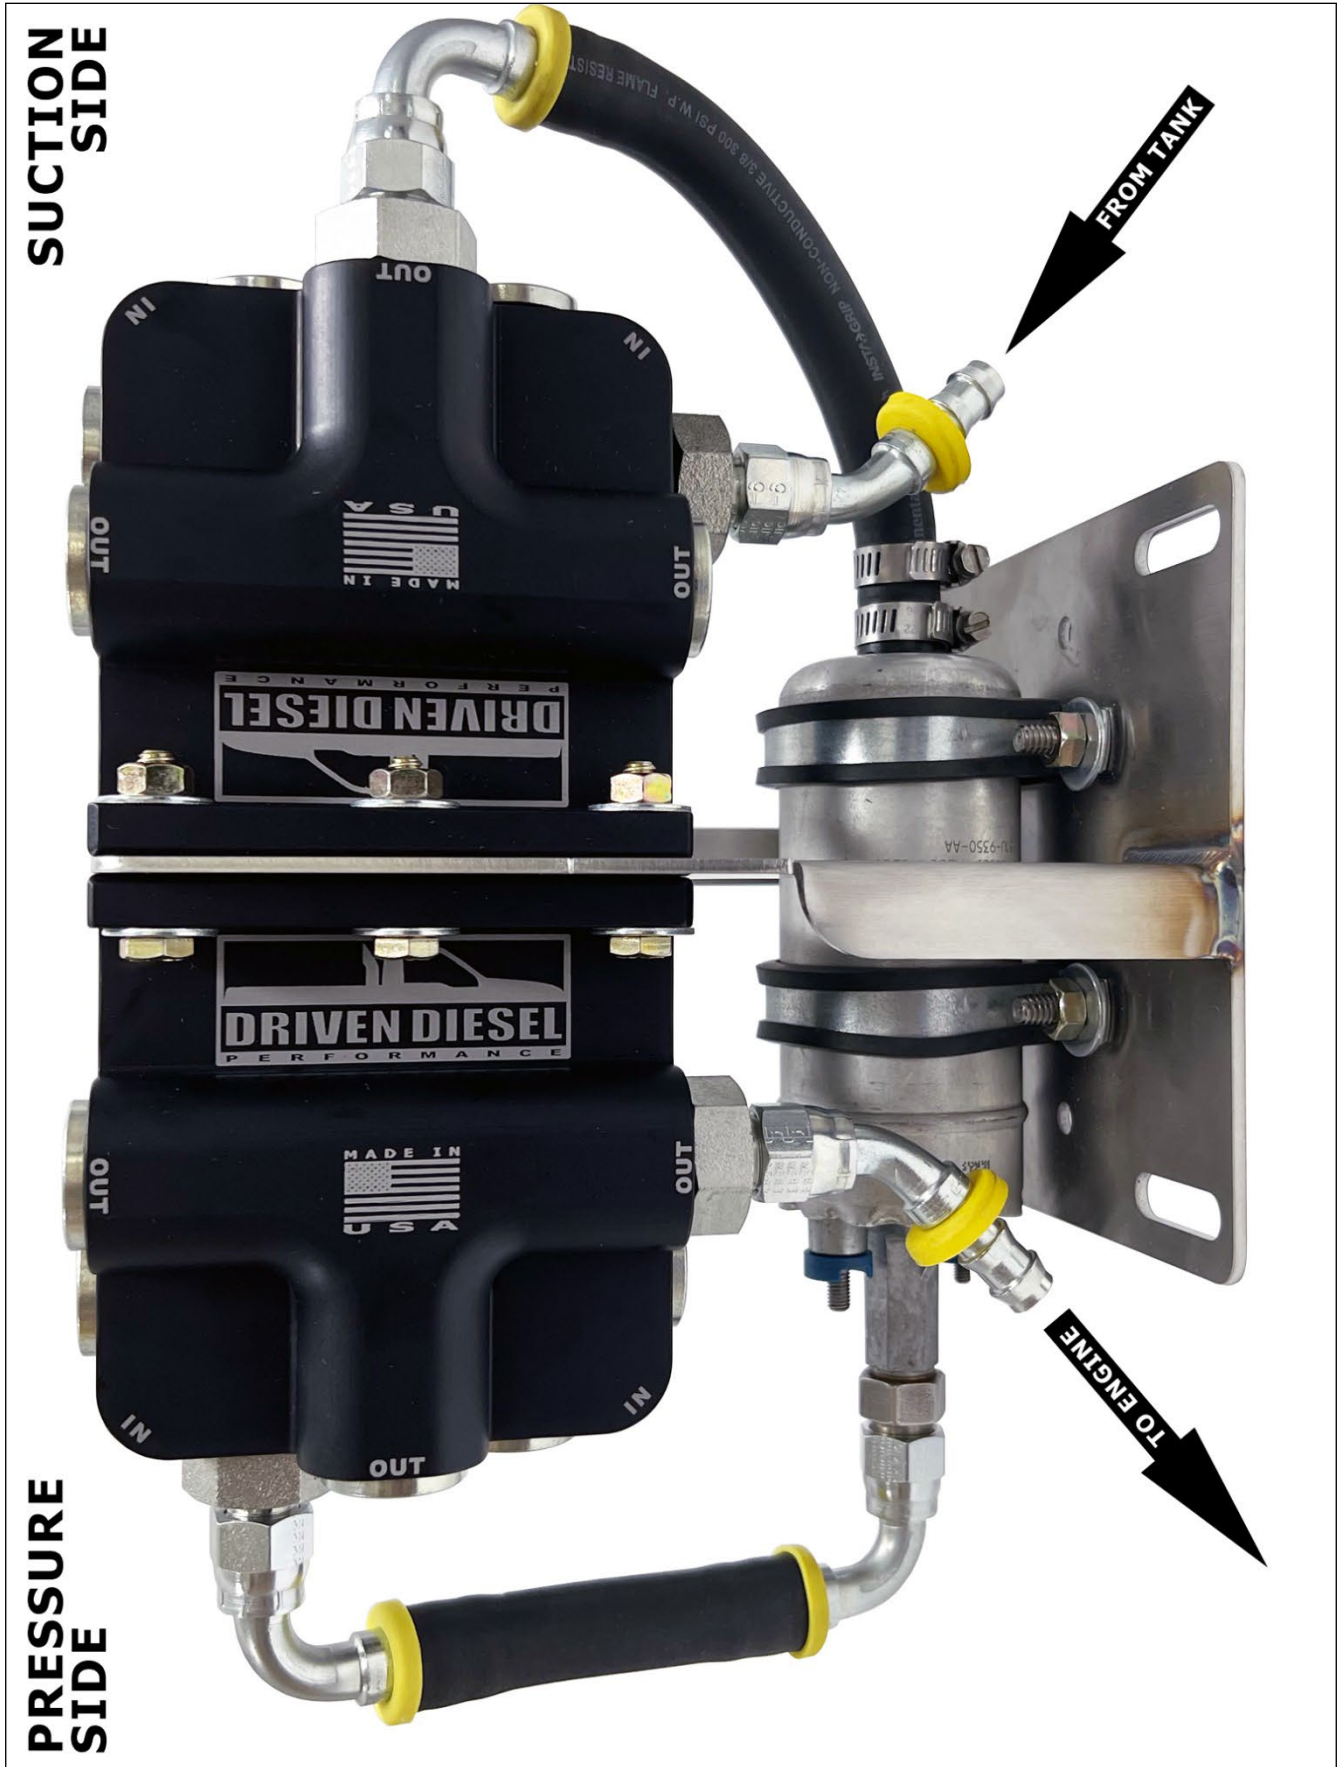

FIGURE 1 – TOP VIEW OF ASSEMBLED FILTER/PUMP BRACKET (INSIDE FRAME ORIENTATION)
3. LOOSELY Install the fuel pump onto the **TOP MOUNTING STUDS** of the mounting bracket using the (2) rubber isolated clamps, (2) 1/4" Flat Washers and (2) 1/4-20 Nylok Nuts (finger tight for now). Make sure you pay attention to the orientation of the pump, the inlet nipple will point to the left (inside the frame) or right (outside the frame) when viewing the bracket from the pump side, depending on your installation needs. **See FIGURES 1 & 2.**
4. Install the (2) DD-BFFH Filter Heads to the bracket using the (5) 1/4-20 x 1 1/4" bolts, (10) Flat Washers and (5) 1/4-20 Nylok Nuts. **See FIGURES 1 & 2.**
5. **Using FIGURES 1 thru 4**, install the (4) 10MB-06MJ adapter fittings (each filter gets one IN and one OUT fitting) and the (10) allen style plugs into the filter heads. It's a good idea to lightly lubricate the o-rings with some diesel fuel so they don't tear during installation.
Using **FIGURES 1 thru 4** as a guide, it's now time to make up the hoses for the filter assembly. Push-Loc hose can be stubborn, it is helpful to warm the end of the hose in some hot water just prior to pushing it onto the hose end. The easiest way to install the 45° & 90° fittings is to put them in a bench vice with the barbed nipple pointing up. Firmly push the end of the hose down onto the fitting in the vice. The hose should be pushed all the way up to the yellow disc, so that it has fully engaged all of the barbs on the fitting. **DO NOT WORRY** about the orientation of the fittings when you are pushing the hose onto them, you can simply rotate the fitting in the hose to get the correct position once you have it fully seated onto the fitting.